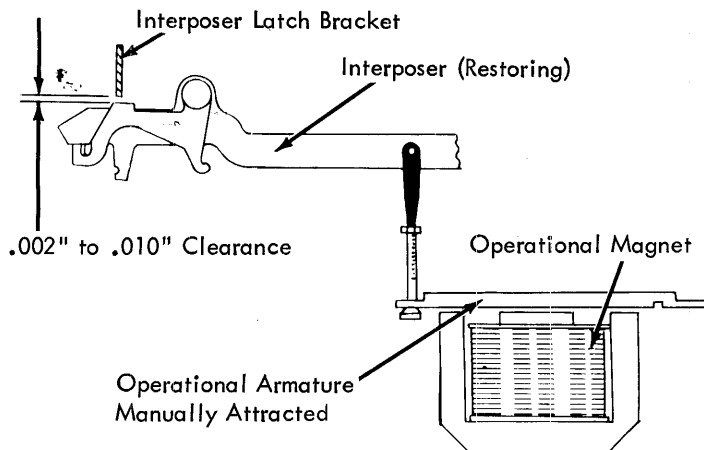

FIGURE 172. Check, Trip Link
- Pull Link (Fig. 172) - Adjust the operational pull links so that a .002" to .010" clearance exists between the interposer latch bracket and the interposer latch at the point of relatching.